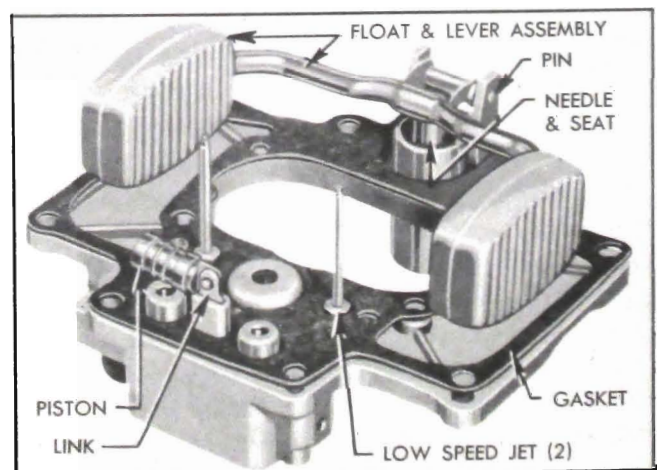

Figure 3-34—Parts Assembled on Bowl Cover
9. Swing vacuum meter piston  $\frac{1}{4}$  turn to remove it from piston link then remove link from bowl cover. See figure 3-34.
fully remove float assembly, install both low speed jets and a new bowl cover gasket and re-install float assembly. See figure 3-34.